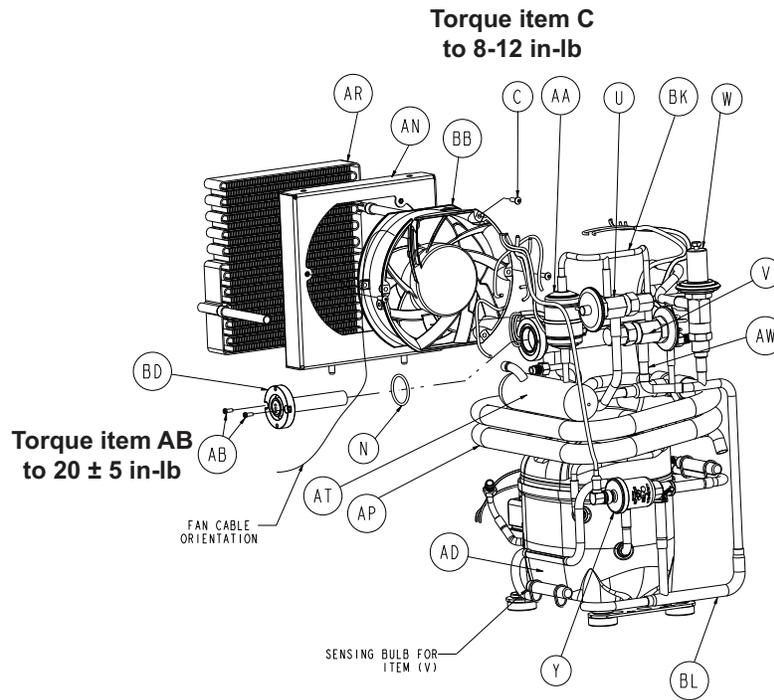

Figure 24 – Heater well
23. Using a T10 Torx driver, remove the two screws (AB) that secure the heater (BD) to the heater well assembly (Figure 24). Save the screws.